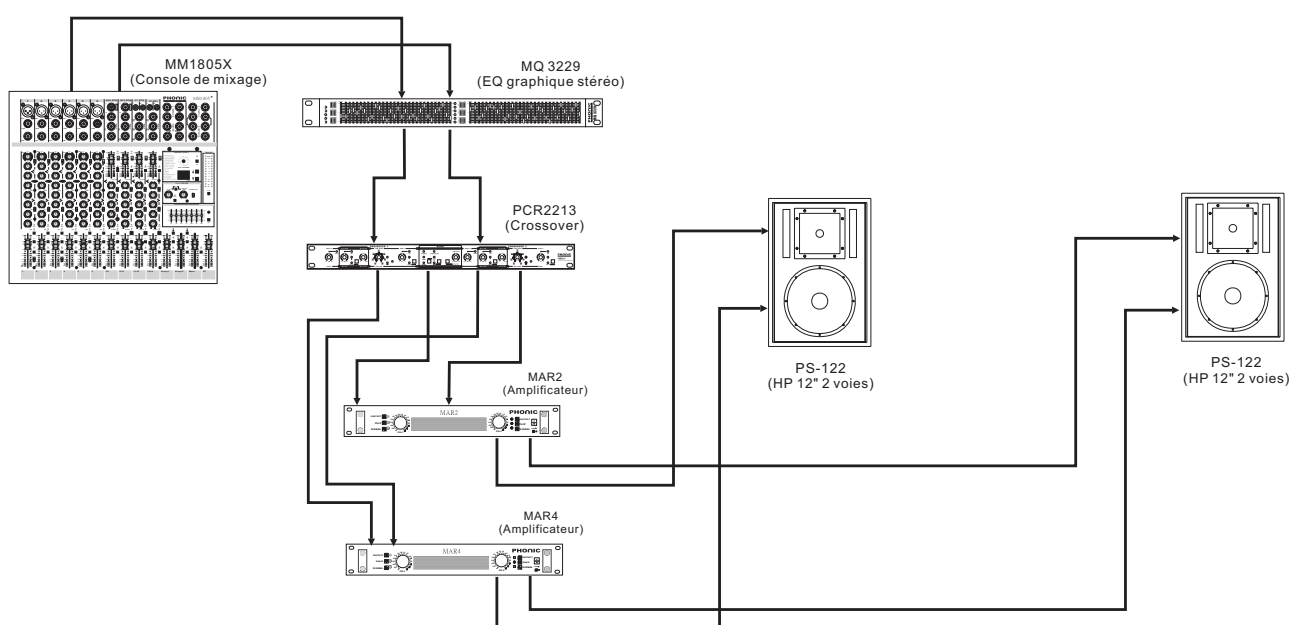

Figure 3 : Configuration typique enceinte passive 2 voies + subwoofer
2.3 ENCEINTE FULL RANGE PASSIVE AVEC FILTRAGE ACTIF POUR SUBWOOFER (cf. figure 3)